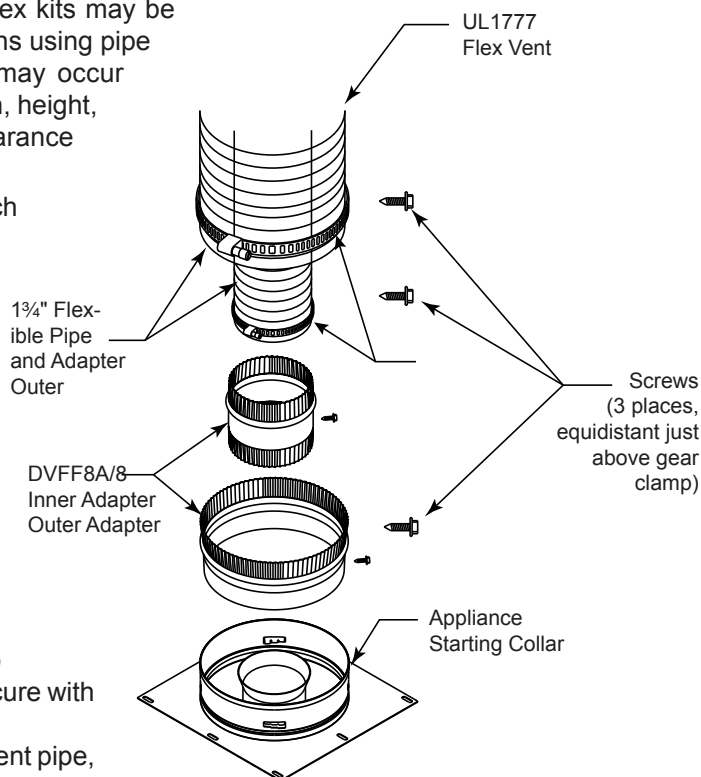

**Figure 26 -
2. The flex adapter starter kit (DVFF8A/8) is used to attach flex venting to the appliance starting collar. It includes 5" inner and 8" outer adapter rings. *Figure 26*
A. Installing the inner flex adapter and pipe. *Figure 26*
B. Installing the outer flex pipe. *Figure 26*